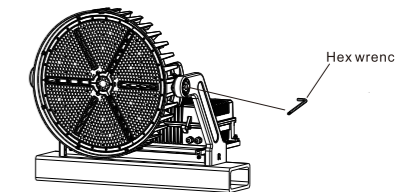

Figure 5
4. Use hex wrench to loosen the adjustment screw used to adjust the angle (Figure 5);